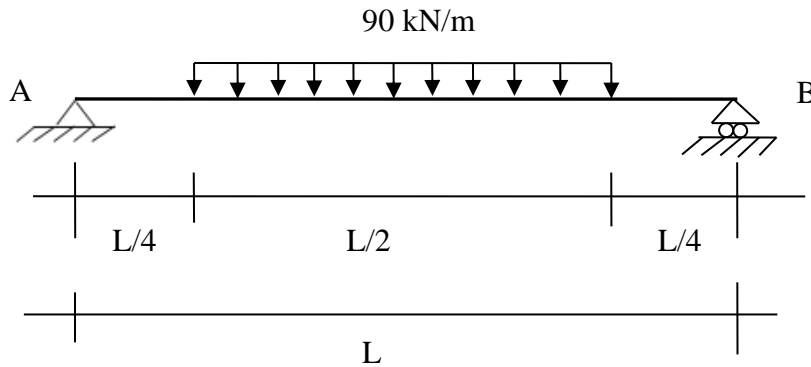

FIGURE 2
The simply supported beam shown as Figure 2 is subjected to a uniformly distributed load of 90 kN/m applied over the central half of the length of the beam as shown on the Figure. The flexural rigidity (EI) value for the beam-section is equal to $90 \times 10^3 \text{ kNm}^2$.